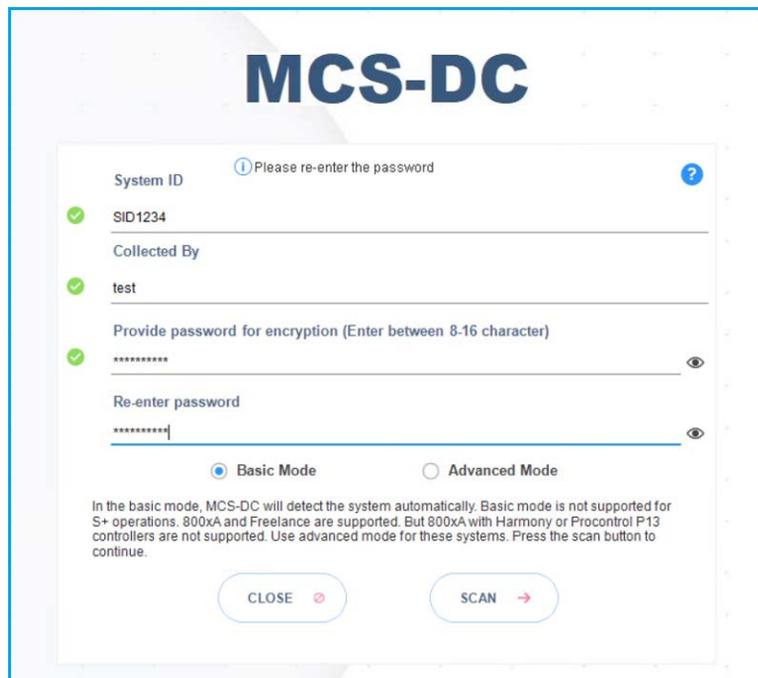

Figure 101. MCS-DC Launcher
2. Double-click on the **MCS-DC\_Launcher.exe**, to launch the tool. It is present inside the unzipped MCS-DC folder. The initial screen appears as shown in Figure 101. MCS-DC tool runs the below checks on the launch node. If the check is passed, a Green tick mark is shown, click the **Launch** button to proceed for data collection. If the check fails, a Red cross mark is shown, user has to fix the issue and launch the MCS-DC tool again.